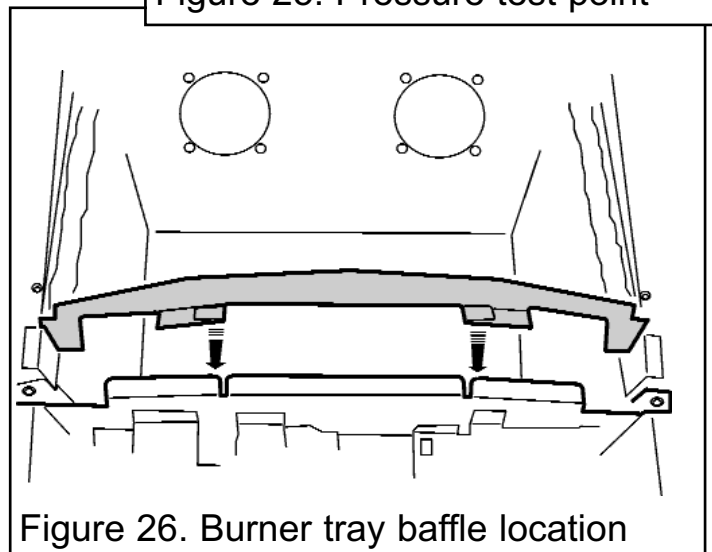

Figure 26. Burner tray baffle location
4. **Homeflame Dream only** - Fit the burner baffle to the front flanges of the burner. To do this, locate the tags on the baffle over the front flanges of the burner and lower into position (See figure 26).